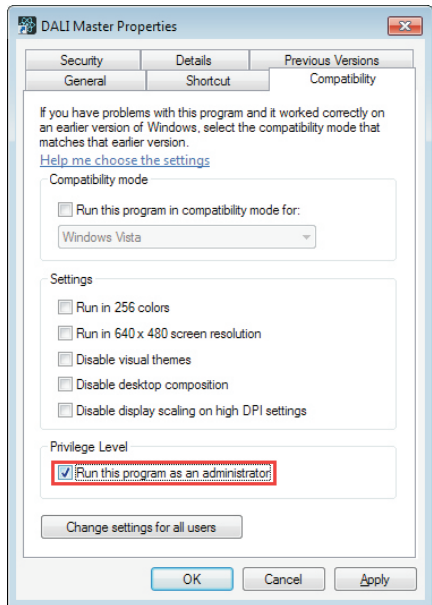

Figure 9 Run this program as an administrator
Step 1: Right click the desktop icon  to check the properties, switch to “Compatibility” tab, and check item “Run this program as an administrator” as shown in **Figure 9**.
Step 2: Click “OK” to complete the setting as shown in **Figure 9**.